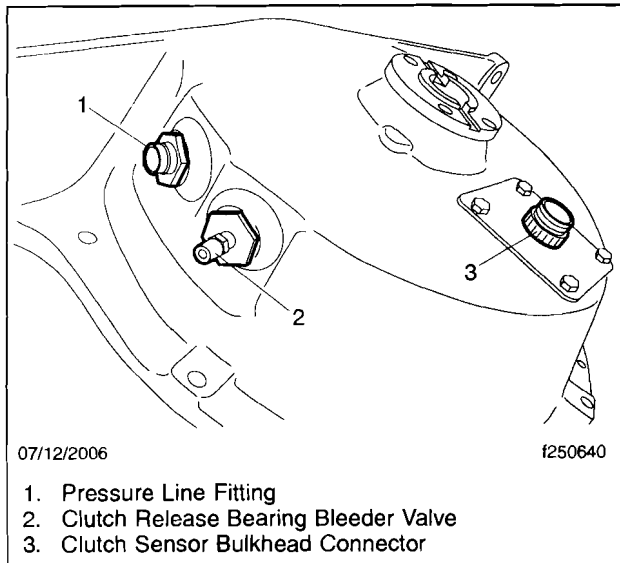

Fig. 8, Clutch Housing
18. Remove the pressure line fitting and bleeder fitting from the housing. Note that the bleeder line fitting must be in the lower position during installation. See **Fig. 8**. Remove the clutch sensor bulkhead connector.
22. Replace the O-rings for the pressure line fitting and the bleeder line fitting, then install them onto the clutch housing, with the bleeder line fitting located in the lower hole. See **Fig. 8**.